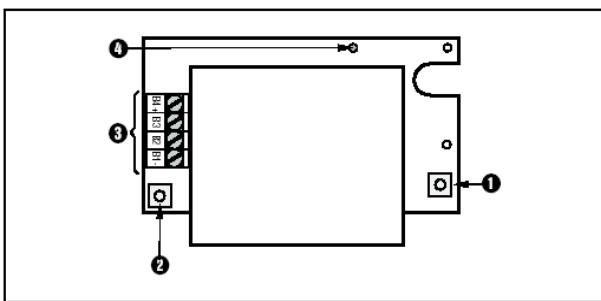

Fig. 3 : SMG51 circuit board
2.3 SMG51 circuit board (fig. 3)
Before closing its housing the W7EG20 must be addressed using the addressing button on the SMG51 circuit board (see fig. 3). For the detailed planning and addressing procedure refer to the further sections in this document, especially section 5.2.